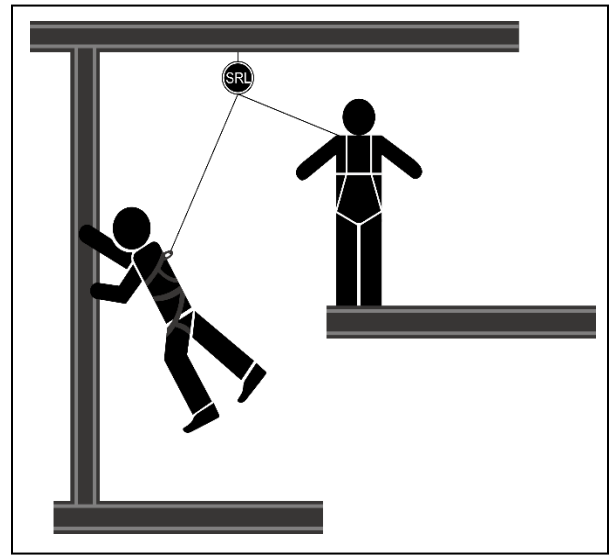

Figure 3: Diagram of a swing fall.
5.5 SWING FALLS: Swing falls occur when the anchorage point is not positioned directly above the point at which a fall occurs (refer to Figure 3). The resultant force of striking an object while in a swing fall may cause serious injury or death. Do not permit a swing fall if injury could occur. To minimize swing falls, work as close to the anchorage point as possible.